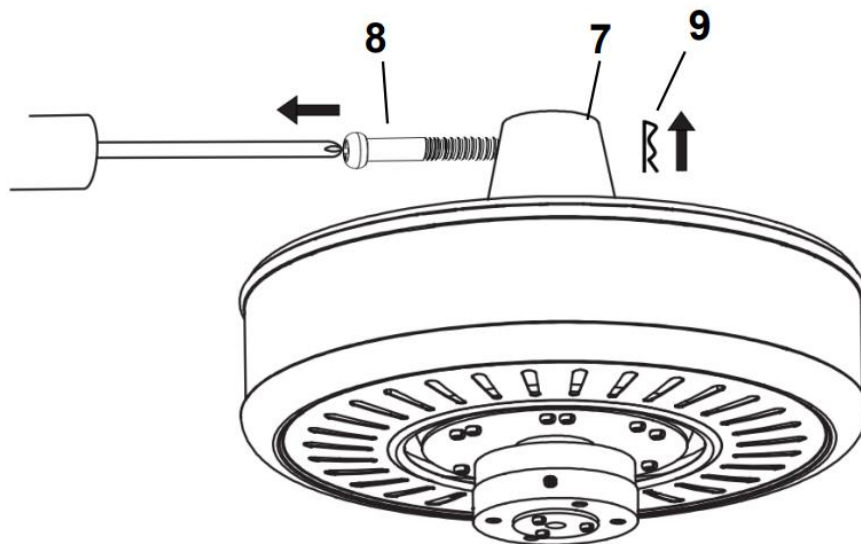

Fig. 4.2
2. Remove the hitch pin (8) on the down rod coupling housing (7) by removing the lock clip (9). (Fig. 4.2)